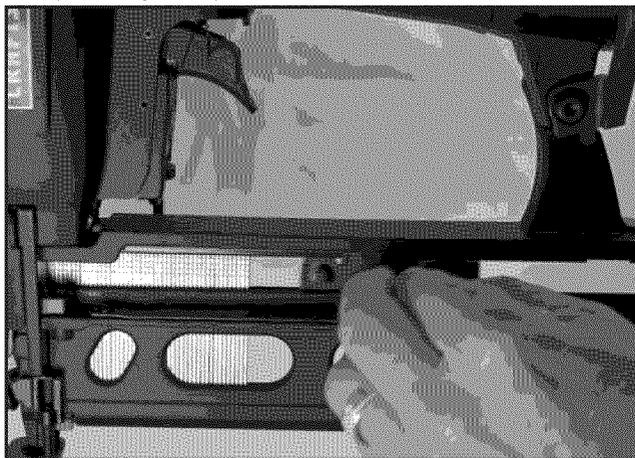

Figure 7—Depress and hold pusher release latch until contact with nail strip
- Depress and hold the pusher release latch to allow the pusher to slide forward. Release the latch when the pusher contacts the nail strip. (See Figure 7)